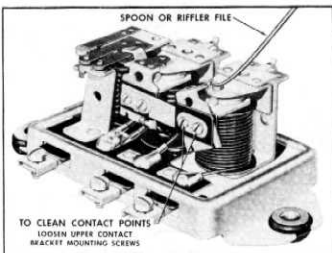

Fig. 24—Cleaning Contact Points
1. Loosen the upper contact bracket mounting screws, so that the bracket may be tilted to one side (fig. 24).